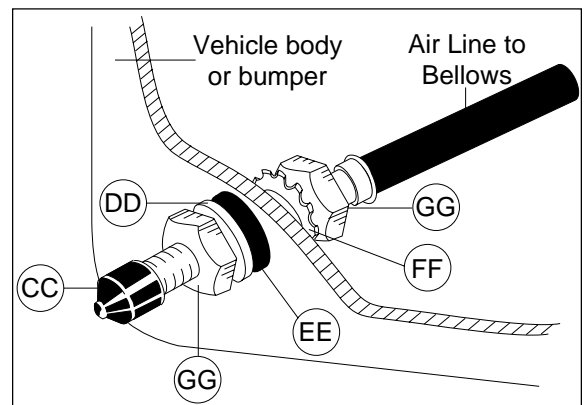

Figure 11
4. Place a $\frac{5}{16}$ " nut (GG) and a star washer (FF) on the air valve. Leave enough of the inflation valve in front of the nut to extend through the hole and have room for the rubber washer (EE), flat washer (DD), and $\frac{5}{16}$ " nut (GG) and cap (CC). There should be enough valve exposed after installation - approximately $\frac{1}{2}$ " - to easily apply a pressure gauge or an air chuck (Figure 11).
5. Push the inflation valve through the hole and use the rubber washer (EE), flat washer (DD), and another $\frac{5}{16}$ " nut (GG) to secure it in place. Tighten the nuts to secure the assembly in place (Figure 11).